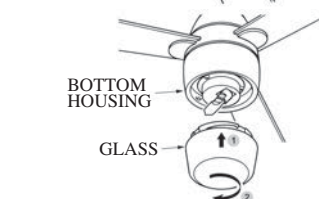

FIG.19
5. Carefully lift the glass shade up inside the light fixture as far as it will go. Rotate the shade in a clockwise (to the right) direction until it is held tightly in place by the three tabs (see Fig.19)